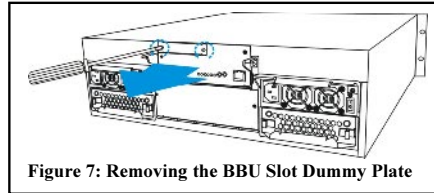

Figure 7: Removing the BBU Slot Dummy Plate
1. Remove the BBU slot dummy plate by loosening the two (2) retention screws located on both sides of the plate then pull it out of the chassis. (See Figure 7)